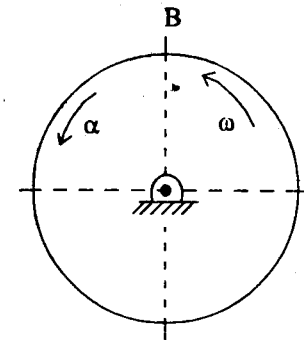

Fig. 11
6. Answer any one part of the following :— (10)
- (a) The angular acceleration of a circular plate of radius 0.5 m shown in Fig. 11 is defined by  $\alpha = \alpha_0 e^{-t}$ . At  $t = 0$ , the plate is at rest and  $\alpha_0 = 10 \text{ rad/s}^2$ . Determine magnitude of total acceleration of point 'B' when